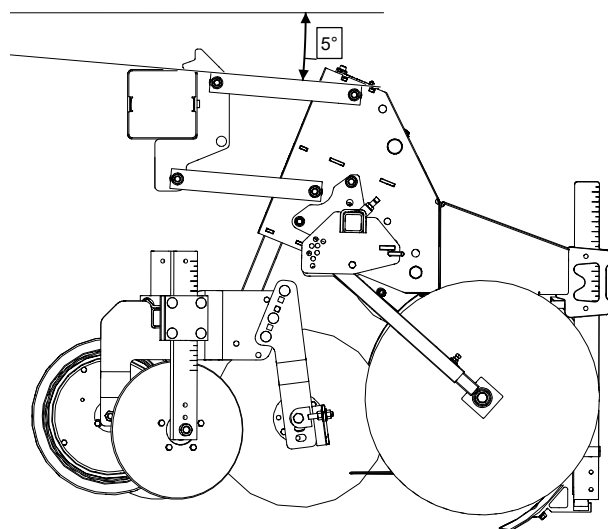

Figure 5 Operating Position
4. Lower cultivator so that sweeps and gauge or guide wheels rest on the ground. Position toolbar in the operating position so that cultivator linkage is nearly horizontal. See Figure 5.